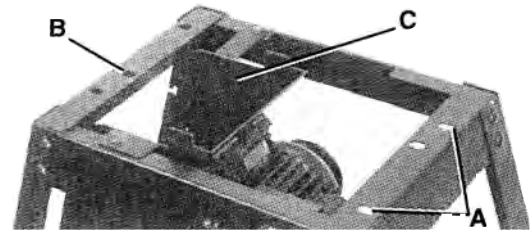

FIGURE 5
2. The infeed end of the jointer is fastened to the two holes (A) Fig. 5, and the outfeed end of the jointer is fastened to hole (B) on the top end braces. **NOTE:** Dust chute (C) is on outfeed end of jointer. Line up the three threaded holes on the bottom of the jointer with the three holes (A) and (B) in the stand end braces.